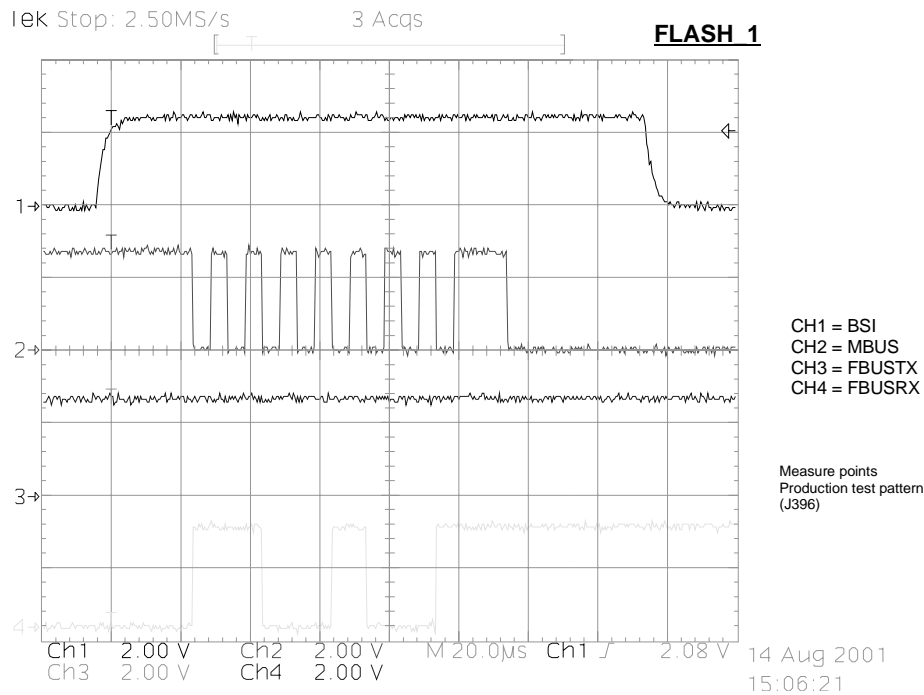

Figure 2: Flashing starts by BSI being pulled up and password being sent to UEM
- MCU will indicate to prommer that it has been noticed, by using FBUSTX signal. After this it reports UPP type ID and is ready to receive secondary boot code to its internal SRAM. (See Figure 2 on page 8).